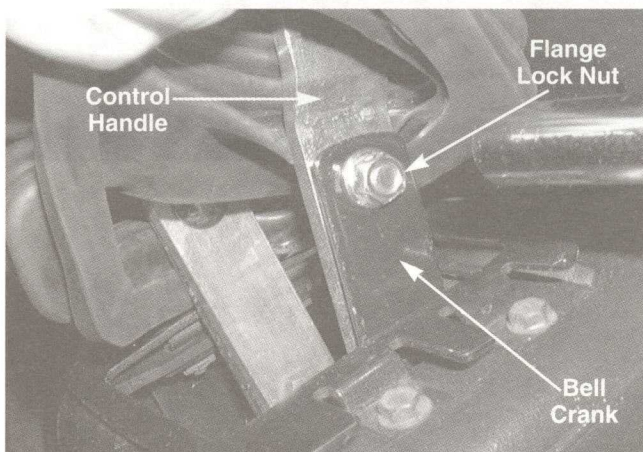

FIGURE 2.
5. Remove the carriage bolt and flange lock nut securing each drive control handle to the upper left and right bellcrank assemblies using a 1/2" socket. See figure 2.